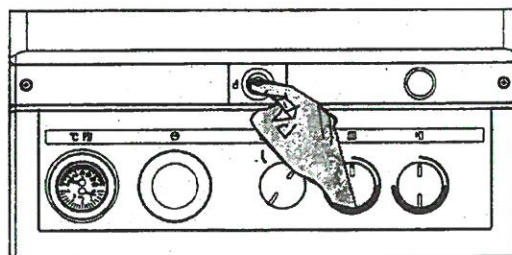

Fig. 3
- 1.2 Should the boiler fail to ignite and the lockout reset button (2) illuminates, press the button once (Fig. 3) - the appliance will reattempt ignition. Should the appliance continue to lockout the appliance must be checked by a competent person.
- 2.2 Should the boiler fail to ignite and the lockout reset button (2) illuminates, press the button once (Fig. 3) - the appliance will reattempt ignition. Should the appliance continue to lockout the appliance must be checked by a competent person.